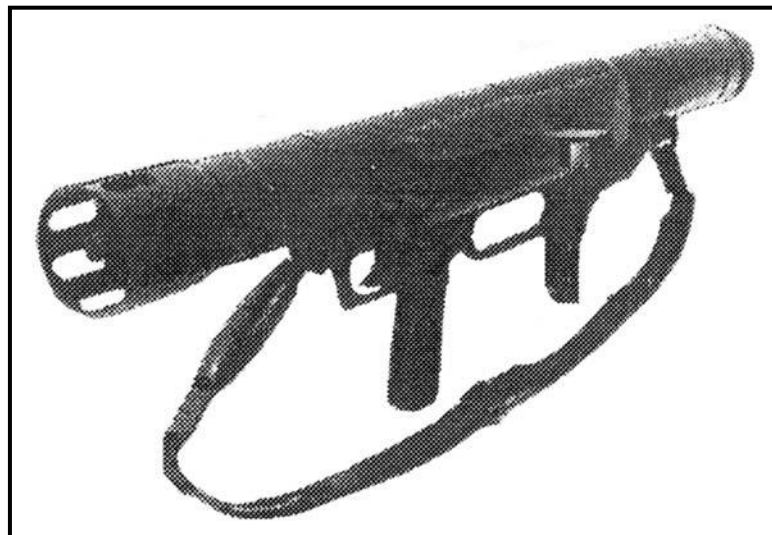

Figure H-9. German 67-mm disposable antitank grenade launcher, Armbrust.
d. German 67-mm Disposable Antitank Grenade Launcher, Armbrust (Figure H-9, page H-8).